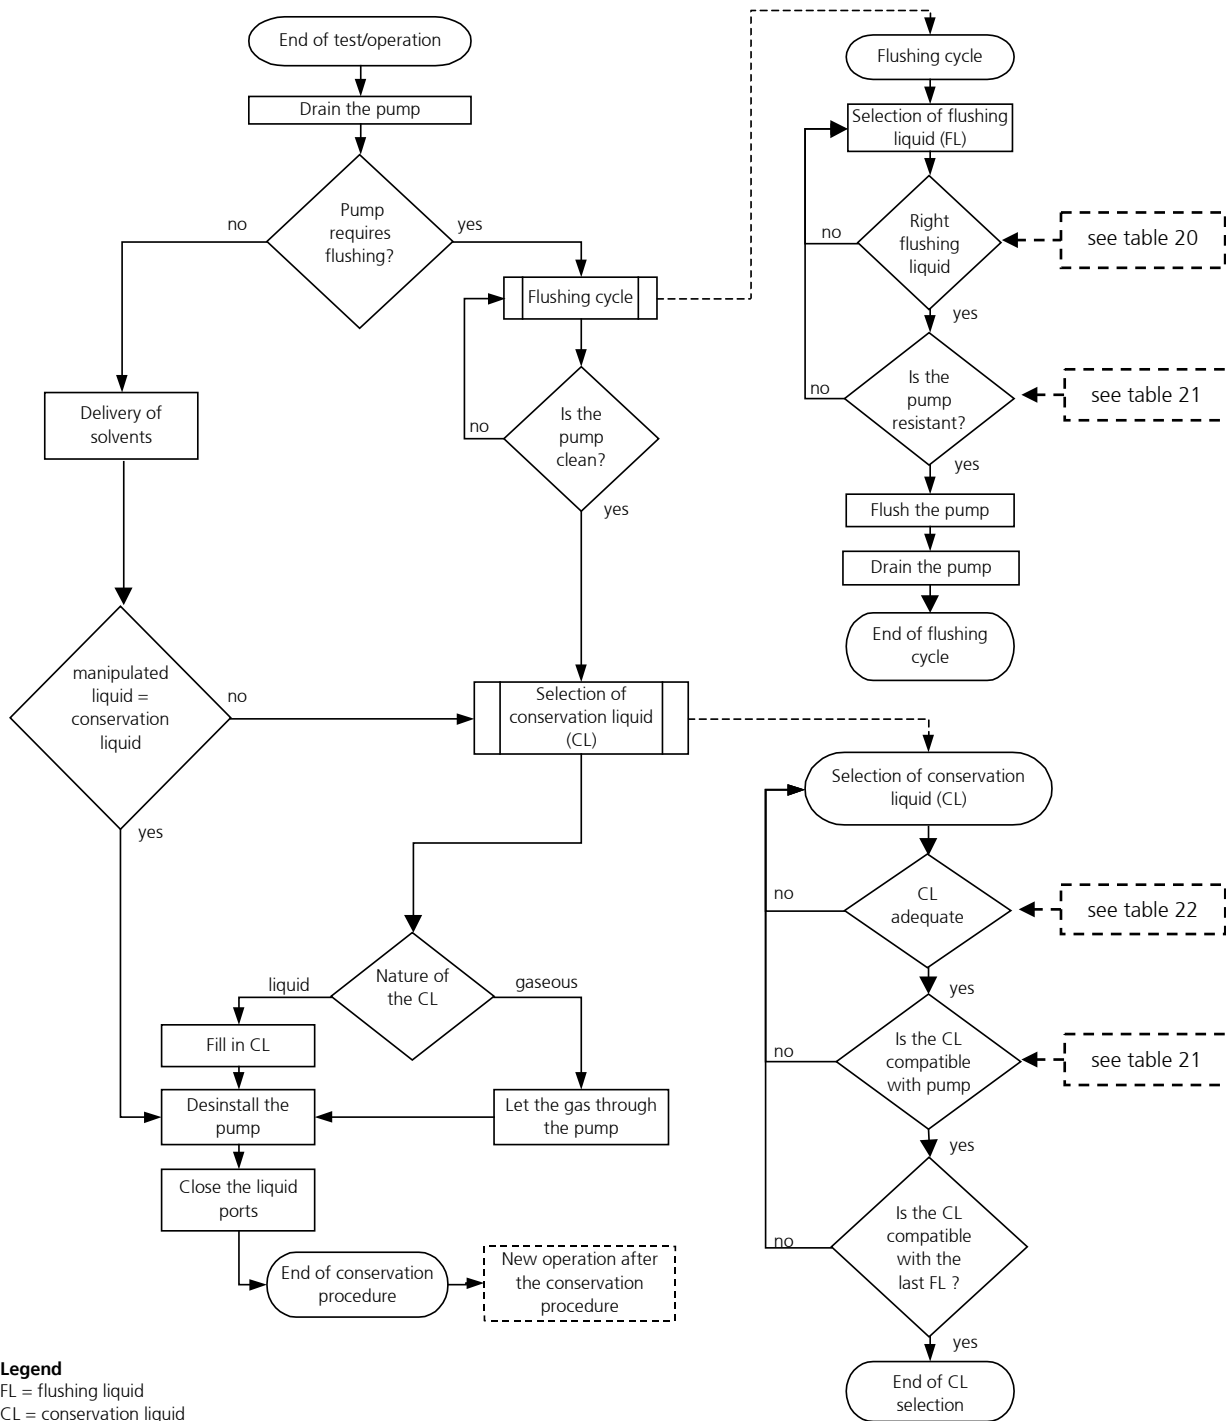

figure 24 Diagram of the shutdown procedure
*Remark:* This diagram is repeated as a part of the figure 24 (shutdown procedure of the micro annular gear pump).